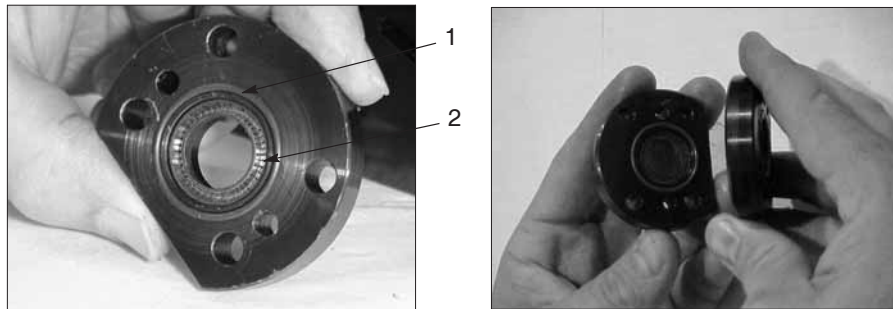

Figure 7-24 Removing the pump packing assembly O-rings and spring seals
9. See Figure 7-24. Separate the two halves of the pump packing assembly. Remove the pump packing assembly O-rings and spring seals (one per half) and discard.